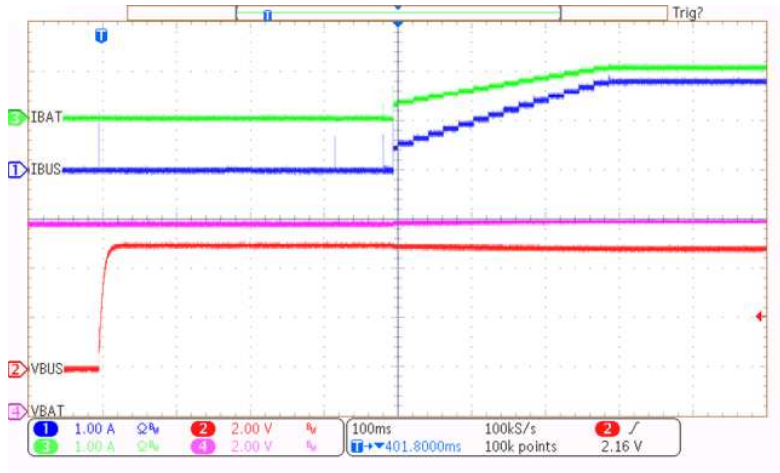

Figure 2. Charge Mode Startup
1. **Figure 2** shows the test setup for BQ25887 when in charge (boosting) mode including jumper settings per **Table 2**. Ensure that the power supply and battery simulator are turned off before connecting to the EVM.
Figure 2 shows the Charge Mode Startup graph.